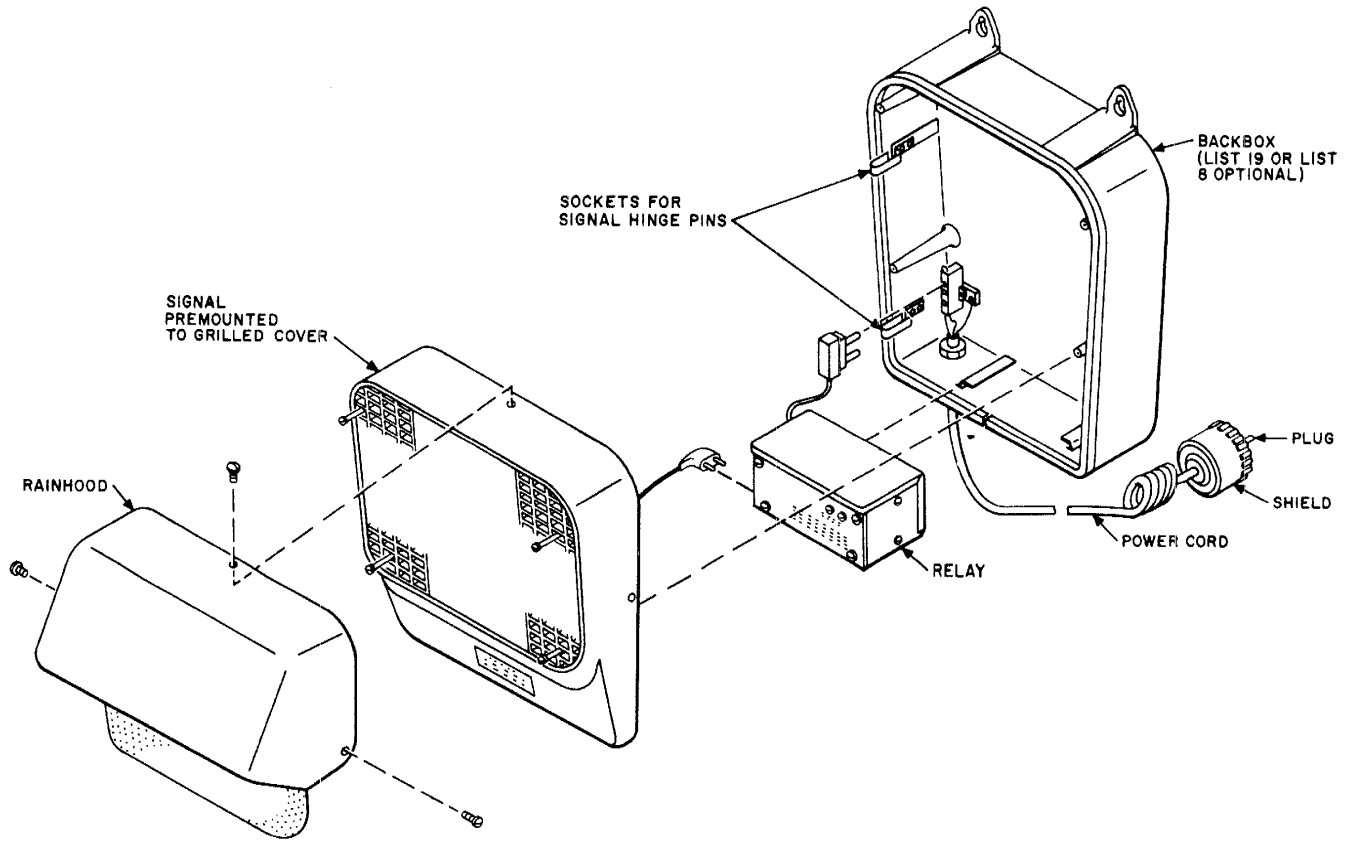

Fig. 1—Exploded View of Assembled Signal Using Relay
- A typical signal (Fig. 1) includes a backbox, a signal premounted to gridded cover, and a control relay.
- Mount relay in the horizontal position on mounts provided in backbox (Fig. 1).
- Engage the two pins on front cover to form a hinge with the two sockets which emerge from backbox (Fig. 1).
- Fasten the signal to the backbox with four machine screws which are furnished (Fig. 1).
- Attach with furnished screws to the signal unit (Fig. 1).